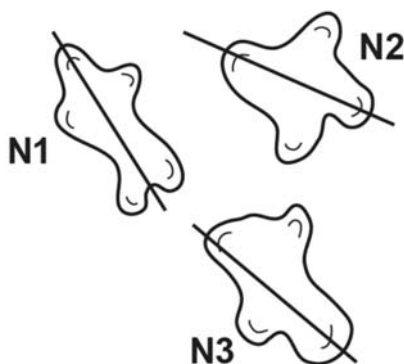

Fig. 3.2
The student used the microscope to observe and draw three starch grains to the same scale. The student drew a line across the length of each drawing of a starch grain. The student's drawings are shown in Fig. 3.2.
- (ii) When viewed using the microscope, the student found that starch grain **N1** measured 4 eyepiece graticule units along the position of the line drawn in Fig. 3.2.
Calculate the mean **actual** length of the three starch grains in Fig. 3.2.